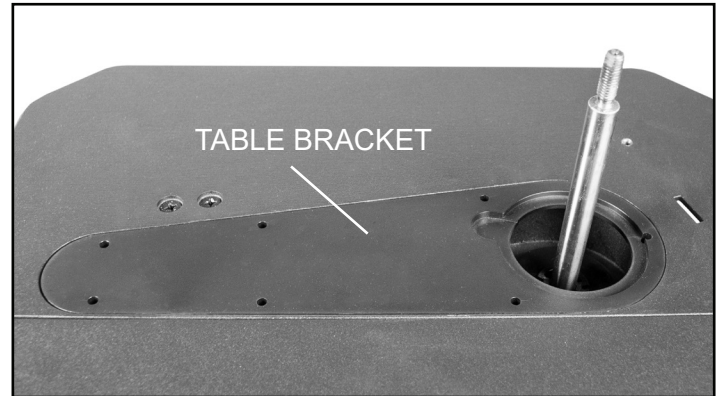

FIG. 1
2. Install the Table Bracket into the table. FIG. 1